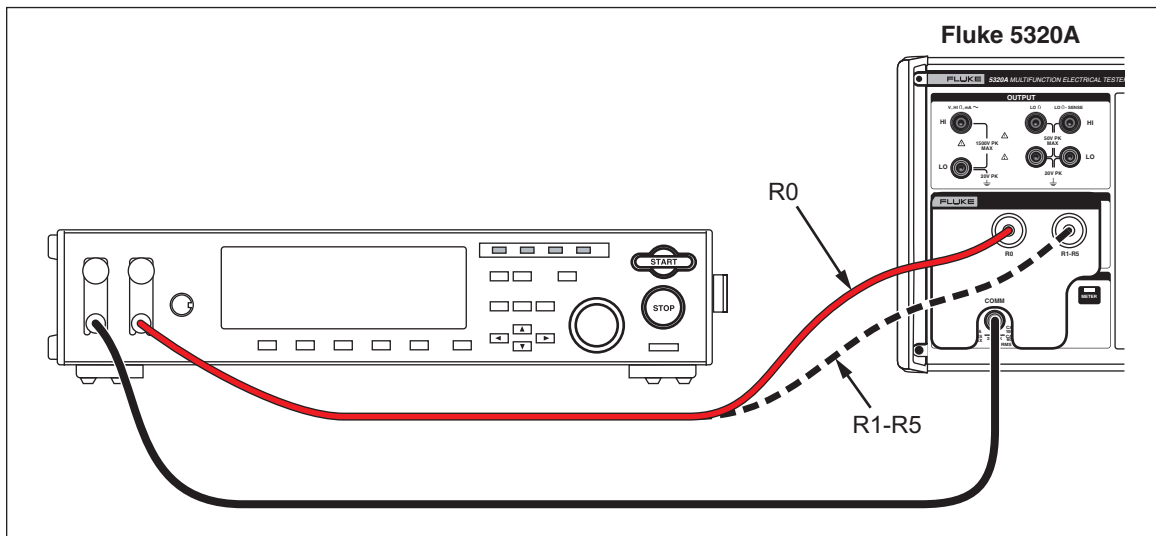

Figure 7-11. Ground Bond Resistance Calibration on Bench Ground Bond Tester
6. As shown in Figures 7-11, connect the UUT to the R0 or R1 – R5 terminal and COM of the GBR Adapter.